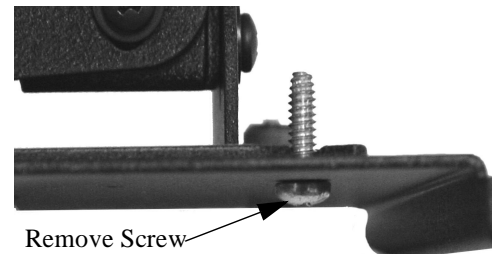

Figure 10. Remove Adjacent Screws
3. Using security wrench (provided), remove 5/16" standard set screw (E) and replace with 5/16" security set screw.
4. Remove two screws from SLB, preferably one from each far corner (see Figure 10).